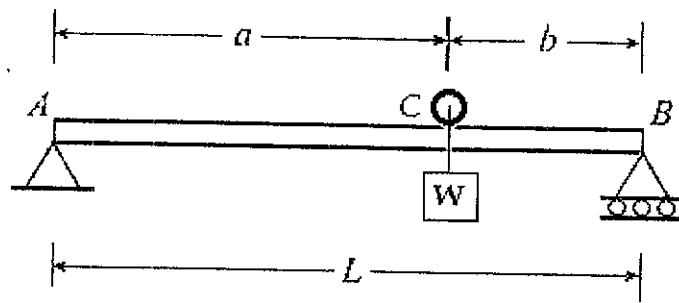

Fig. Q4
- b) Fig. Q4 shows a simply supported steel beam which is used as a gantry girder at a factory building. At a time when a load W is carried by the girder, the position to the load from the supports A and B are a and b , respectively. The flexural rigidity EI for the girder is a constant. Using moment area method, show that,